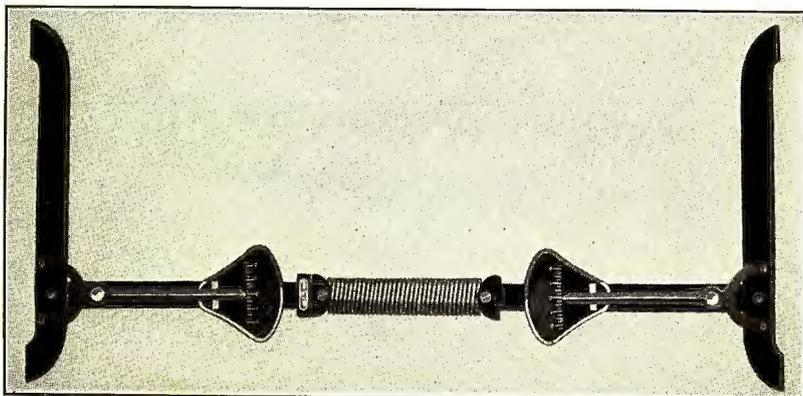

Fig. 123
- 154 The use of an automatic wheel alignor (See Fig. 123), will facilitate checking the camber and gather of the front wheels, as it is not only a time-saver but furnishes a more accurate check on the alignment of the wheels than it is possible to obtain with ordinary devices.